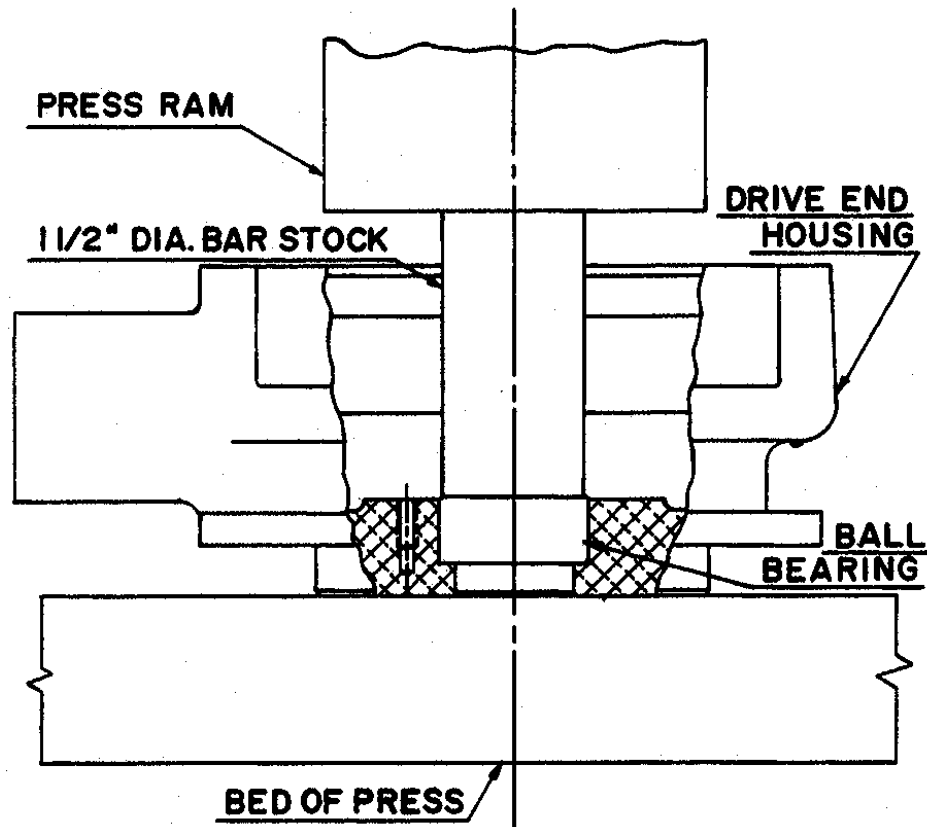

FIGURE 8
1. Press the oil seal (5) into the drive end housing (7) with the seal lip toward the outside of the housing. Use an arbor press and a flat pressing tool at least 1.5 inch diameter. (See Figure 8.)
2. Press the ball bearing (3) into the drive end housing. Surface of bearing to be flush with inside surface of housing. Seating tool must press on outer-race of bearing during installation.
3. Install the bearing retainer plates (8) with 3 bolts (9) each. Apply "Loctite #242" to the 3 bolts (9), torque to 20-25 in. lb.